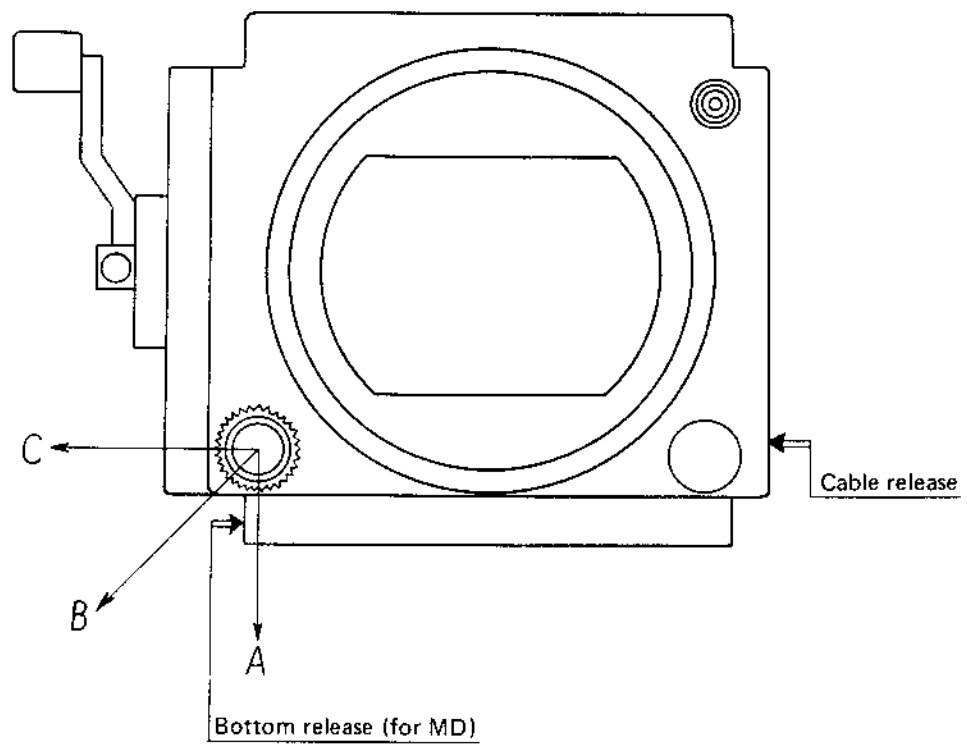

Fig. 3
29. Click Position and Operation of Shutter Button Ring (Fig. 3)